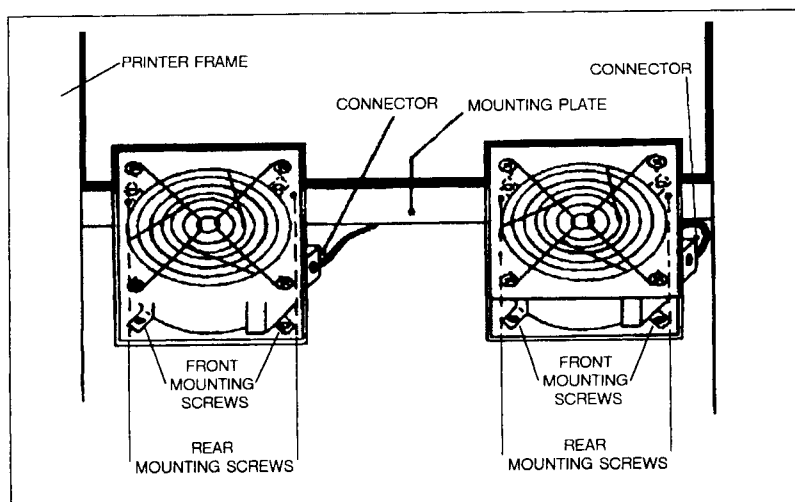

Figure 6-25. PCA Ventilation Fans
- a. Switch the printer offline and the ON/OFF switch to the OFF (0) position.
- c. Unplug the connector on the side of the fan (see Figure 6-25).
- d. Remove the four Pozi-drive screws from the top side of the fan housing, as shown in Figure 6-25.